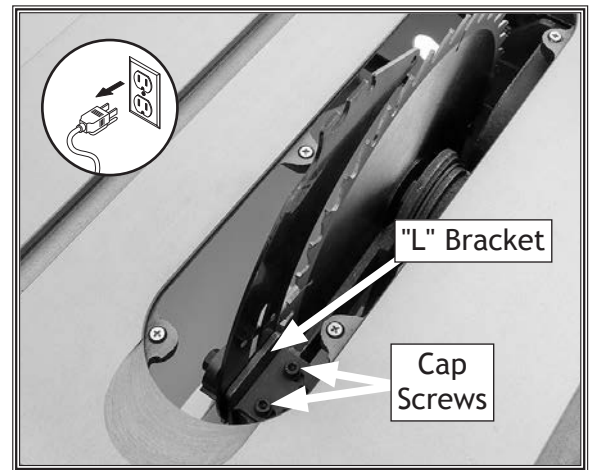

Figure 110. Cap screws for adjusting spreader/riving knife position.
3. Loosen two cap screws on the "L" bracket (see **Figure 110**), then slide spreader/riving knife as needed to move it into alignment with blade.